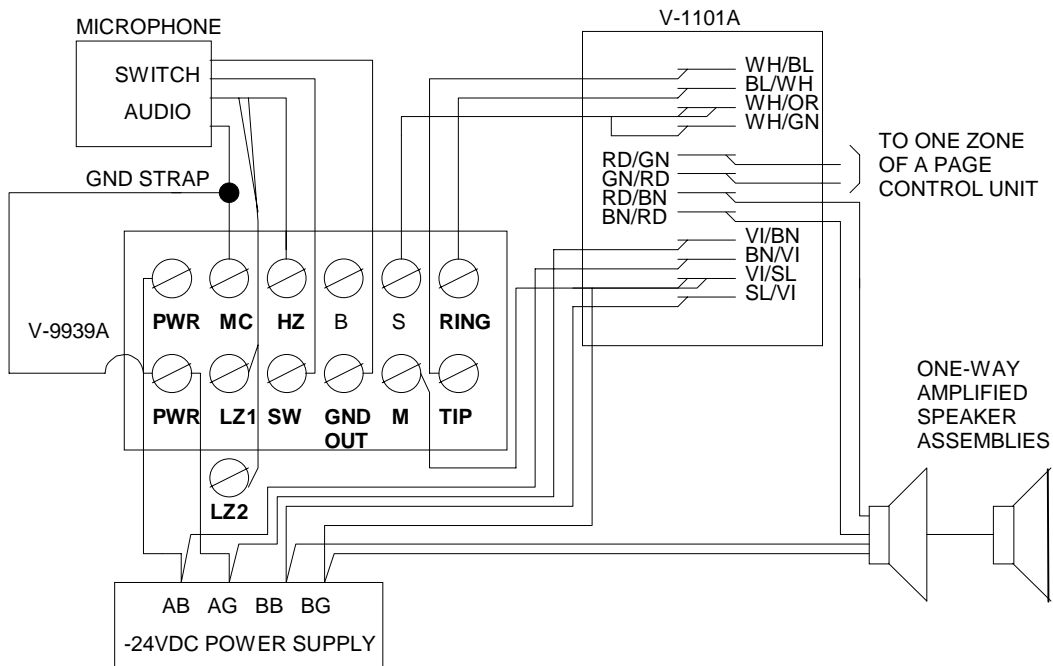

FIGURE 5 - OVERRIDE A SINGLE ZONE WITH A V-1101A
- ___2. Override an individual zone using a V-1101A: Proceed to Figure 5.
WIRING INSTRUCTIONS (For Figure 5)
4. No output from V-1101A.	Recheck all connections per Figure 5. Make sure the V-1101A passes the power test in Figure 5, step 17.